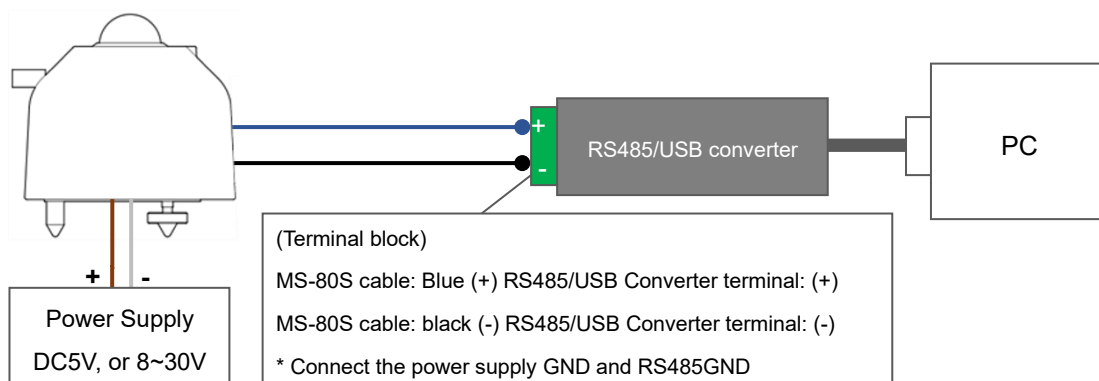

Figure A3-1. Hardware preparation
- 3) Connect the power lines of the signal cable to the power supply (DC5V or 8 to 30V), and turn on the power supply. (Refer to Figure A3-1.)